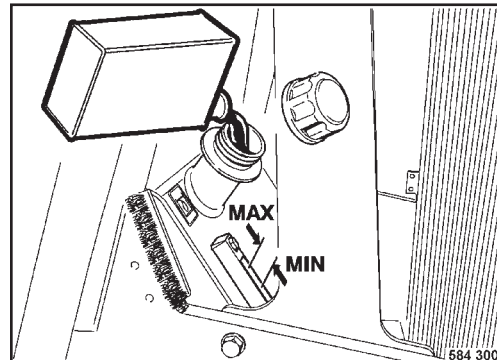

Fig. 154
- Take the filler cap (Fig. 154) off.